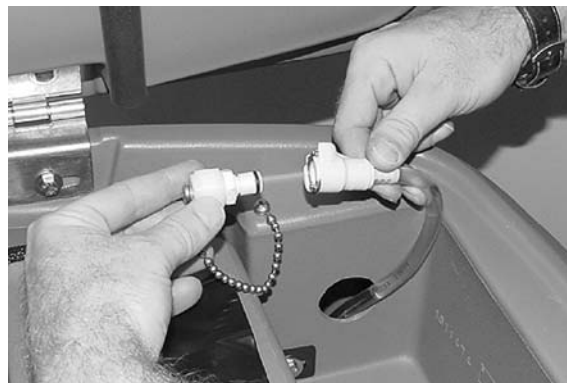

FIG. 60
- When finished, connect the supply hose to the storage plug (Figure 60).